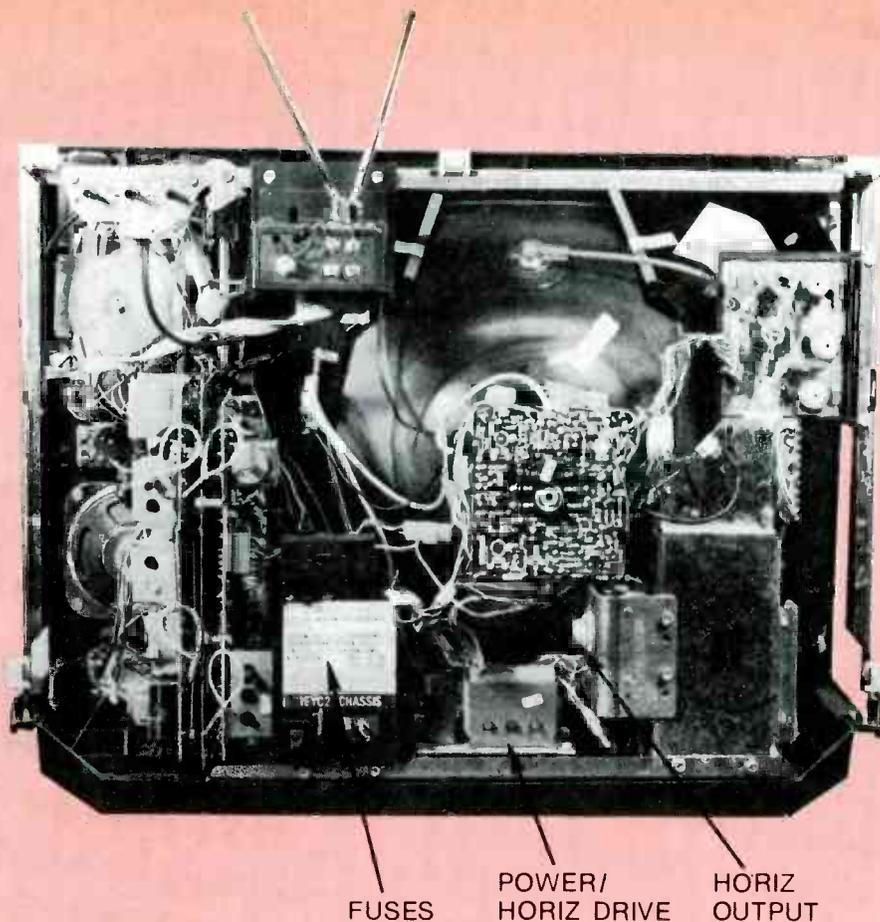

Fig. 1 Locations of some power-supply components are shown here.
Some power supply components of the General Electric 19YC2 chassis are shown in Figure 1. Line voltage enters through a polarized plug on a plastic bracket. The larger of the two power prongs connects to the chassis and common ground of the TV; so, if the wall socket is wired correctly, the chassis actually is wired to earth ground. However, all of the usual insulations for "hot chassis" receivers are supplied, to make sure no customer can receive a shock. There is no power transformer, but a heater transformer is supplied for the picture tube.
Figure 1 shows simplified schematics of indirect and direct keying. With indirect keying, the actual key switch changes some voltage that's applied to the gate (such as bias for a transistor, or keying voltage to a diode), and the gate allows the proper audio tone to pass through to the common audio bus.
Fig. 1 Audio from the tone generators either is keyed by some kind of gate (A), or directly by the key switches (B). A DC supply is required to operate the gates, which might be diodes, transistors, neon bulbs, or tubes.